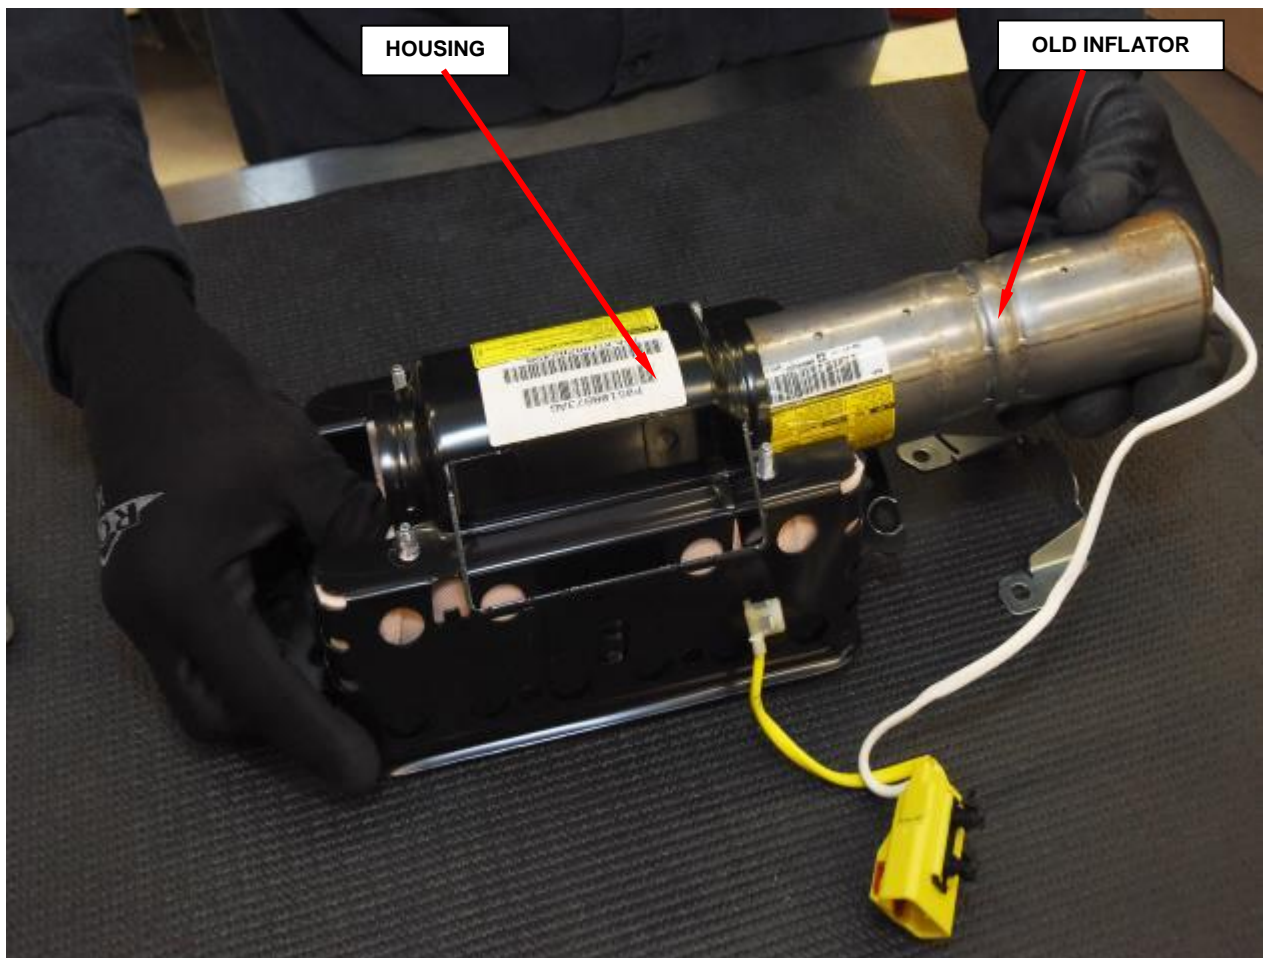

Figure 102 – Passenger Airbag Inflator Removal
- g. Slide the inflator out of the housing (Figure 102).